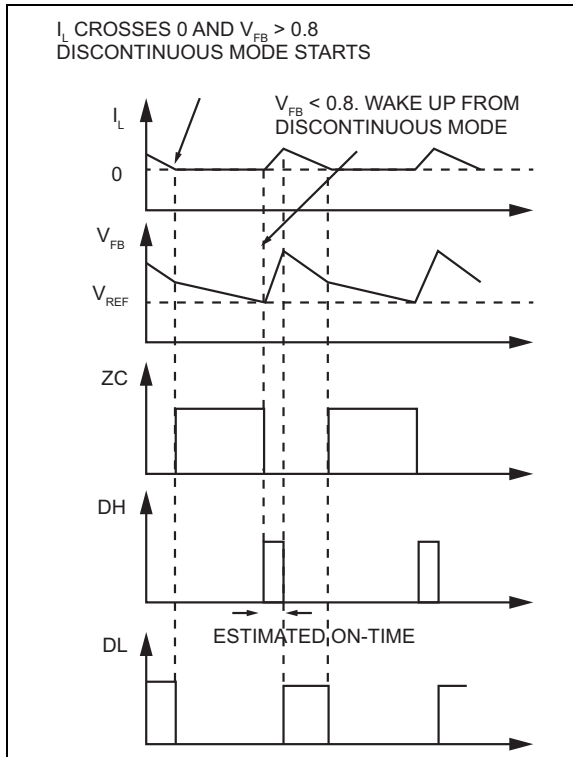

FIGURE 4-4: MIC45116-1 Control Loop (Discontinuous Mode).
In continuous mode, the inductor current is always greater than zero; however, at light loads, the MIC45116-1 is able to force the inductor current to operate in discontinuous mode. Discontinuous mode is where the inductor current falls to zero, as indicated by trace (I_L) shown in Figure 4-4. During this period, the efficiency is optimized by shutting down all the non-essential circuits and minimizing the supply current as the switching frequency is reduced. The MIC45116-1 wakes up and turns on the high-side MOSFET when the feedback voltage V_{FB} drops below 0.8V.
Once the MIC45116-1 goes into discontinuous mode, both low driver (DL) and high driver (DH) are low, which turns off the high-side and low-side MOSFETs. The load current is supplied by the output capacitors and V_{OUT} drops. If the drop of V_{OUT} causes V_{FB} to go below V_{REF} , then all the circuits will wake up into normal continuous mode. First, the bias currents of most circuits reduced during the discontinuous mode are restored, and then a t_{ON} pulse is triggered before the drivers are turned on to avoid any possible glitches. Finally, the high-side driver is turned on. Figure 4-4 shows the control loop timing in discontinuous mode.